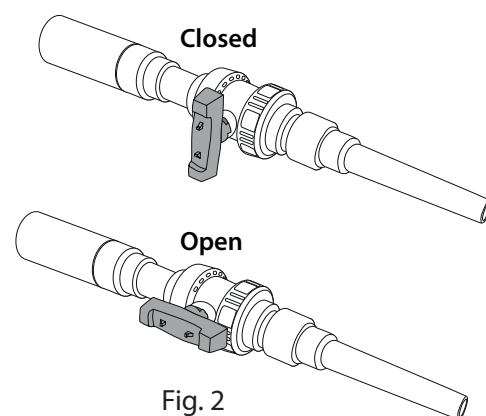

Fig. 2
- 2) Open the shut-off valve located on the suction nozzle handle by turning the valve so that the handle of the valve is parallel to the length of the hose. (See Fig. 2)
- 9) **Close the shut-off valve on the suction nozzle handle by turning the valve so that the handle of the valve is perpendicular to the length of the hose. (See Fig. 2)**
- Open the shut-off valve on the suction nozzle handle (See Fig. 2)